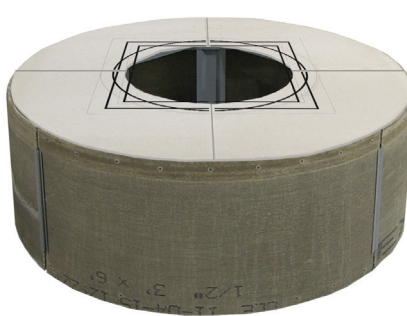

Fig. 9 Round MgO Top Installed
Place all (4) boards on top of the AnF. Mark where you need to cut following the template. For each piece you will need to cut on the inside (for the pan) and the outside (for the edge of the AnF). Once the pieces are cut, place them back on the top of the AnF and attach using the cement board screws provided (See Fig. 9). You can install the cement board screws anywhere there is metal underneath the MgO board top. (See Fig. 10).